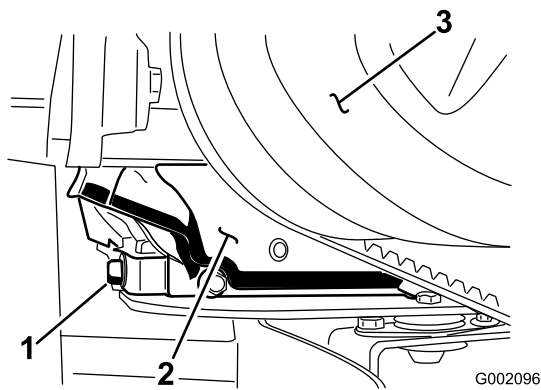

Figure 27
5. Remove the drain plug (Figure 27) and let the oil flow into a drain pan. When the oil has drained completely, install the drain plug and torque it to 13 ft-lb (17.6 N-m).